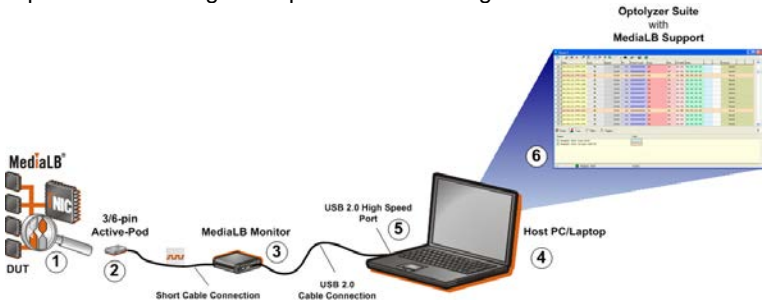

Figure 5-1: MediaLB Analyzer Overview
1. Check, if MediaLB Monitor (**(3)**, see Figure 5-1 on page 23) is not connected to the PC/laptop. If it is connected, disconnect the device and remove power supply and Active-Pod.
Figure 5-1 gives an overview of the entire MediaLB Analyzer and depicts how the single components are arranged.
The steps are based on Figure 5-1 and explained from left to right.
4. After completion of the software installation disconnect all cables from the MediaLB Monitor (see Figure 5-1 on page 23).